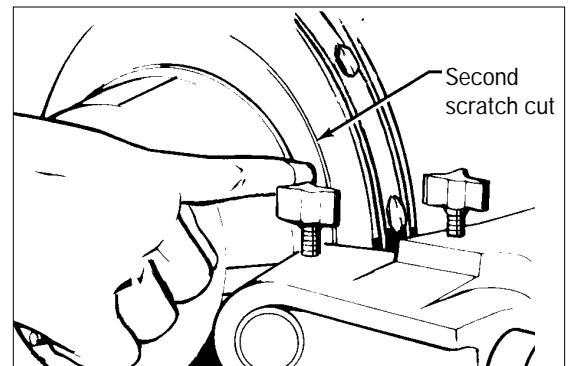

Figure 26 - Second scratch cut
11. Check rotor mounting by loosening the arbor nut and turning the rotor 180° by hand on the arbor. Make sure the inside adapter does not rotate along with the rotor. Then retighten the arbor nut, turn the cross feed handwheel back 1/2 turn, turn the lathe ON, and repeat step 10 to make a second scratch cut (figure 26).